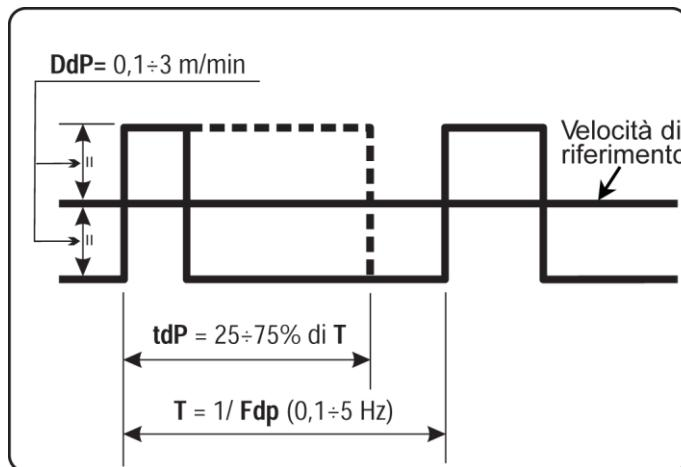

fig. 7
- **tdP** on display **O** (duration of the highest wire speed, meaning with the highest current, expressed as a percentage of the time drawn from the frequency **Fdp** (fig. 7)); use knob **Q** to select the percentage visible on display **P**. Regulation range: 25 ÷ 75%, default = 50;